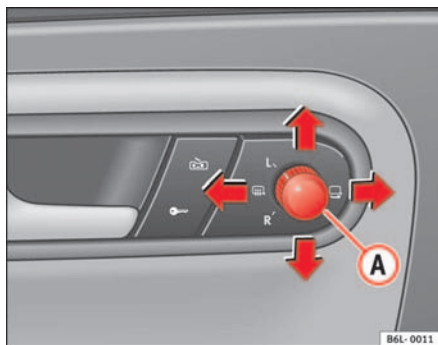

Fig. 68 Exterior mirror control
1. Turn knob ⇒ fig. 68 to position **L (left exterior mirror)**.
- Turn the knob to demisting position  ⇒ fig. 68.
- Turn the control ⇒ fig. 68 to position  to fold in the exterior mirrors. You should always fold in the exterior mirrors if you are driving through an automatic car wash. This will help prevent damage.